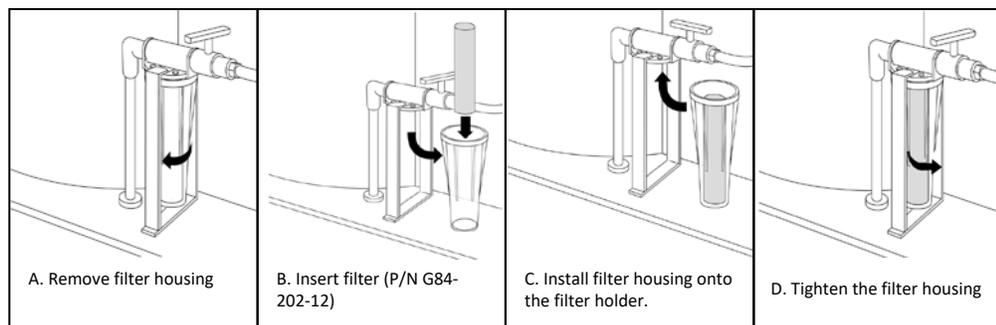

Figure 21
11. Remove the Filter Housing and drain all residual water from the Housing. Install a new Filter and tighten the Filter Housing into place (Figure 21).